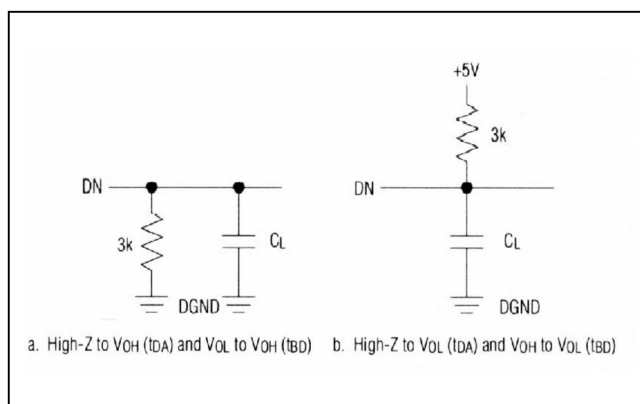

Figure 1. Load Circuits for Access Time
**Note 7:** Control inputs specified with  $t_r = t_f = 5ns$  (10% to 90% of +5V) and timed from a 1.6V voltage level. Output delays are measured to +0.8V if going low, or +2.4V if going high. For bus-relinquish time, a change of 0.5V is measured. See Figures 1 and 2 for load circuits.